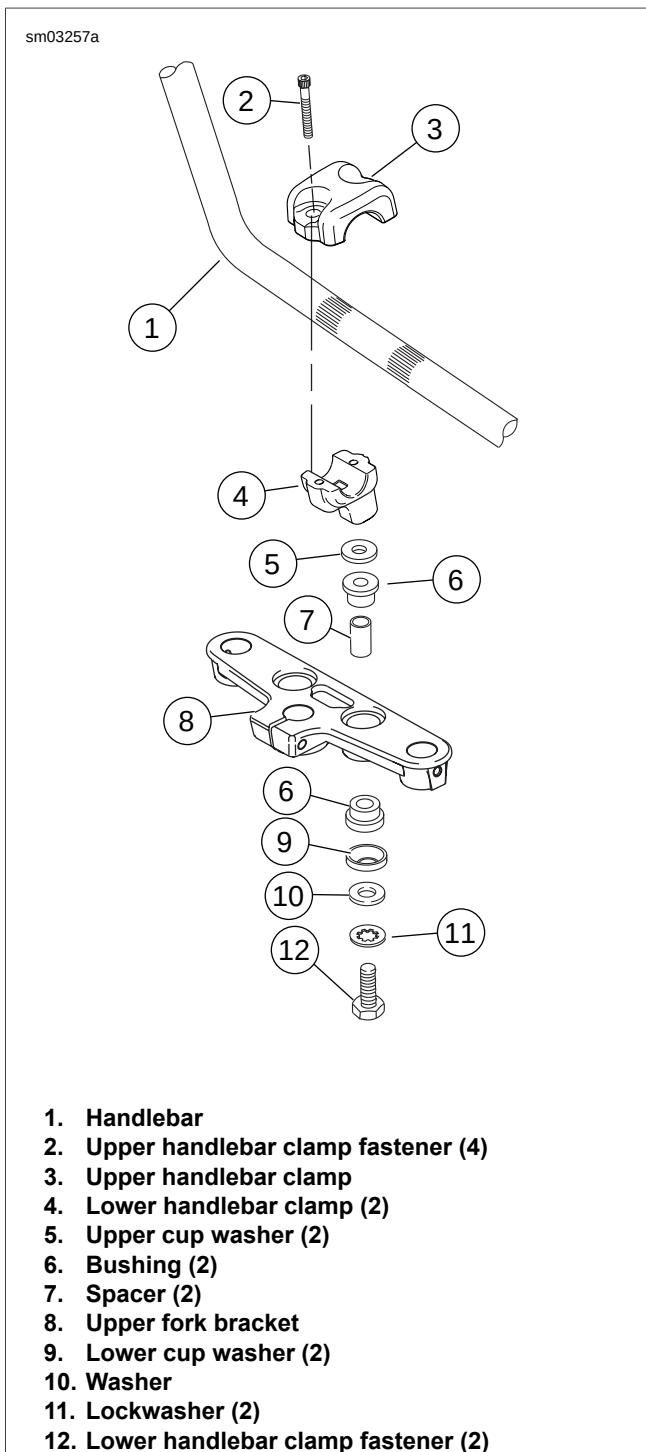

Figure 2-92. Handlebars: FLSTF/B
14. See Figure 2-92. Remove upper handlebar clamp fasteners (2) and upper handlebar clamps (3).
16. If removing lower handlebar clamps (4), remove two lower handlebar clamp fasteners (12), lockwashers (11), washers (10), and lower handlebar clamps from upper fork bracket (8).
11. See Figure 2-92. If lower handlebar clamps (4) were removed, install washers (10), and lockwashers (11) on lower handlebar clamp fasteners (12).
12. Slide lower handlebar clamp fasteners through upper fork bracket (8).
14. Place handlebars (1) on lower handlebar clamps. Install upper handlebar clamps (3). Install but do not tighten clamp fasteners.
24. See Figure 2-92. Remove one lower handlebar clamp fastener (12). Apply LOCTITE 262 HIGH STRENGTH THREADLOCKER AND SEALANT (red) to fastener threads.